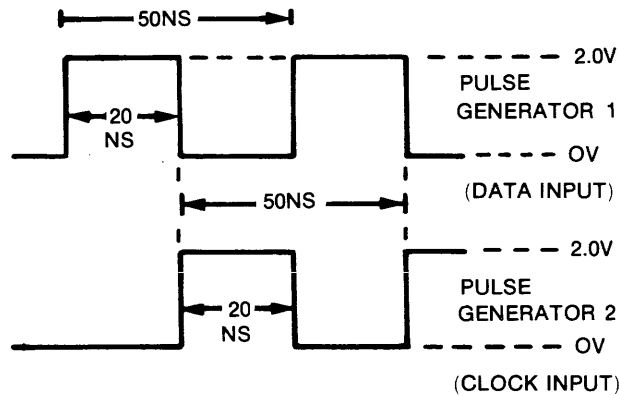

Figure 4-3. Clock, Qualifier, and Data Inputs Test Waveform
- b. Set up pulse generators to supply waveforms shown in figure 4-3.